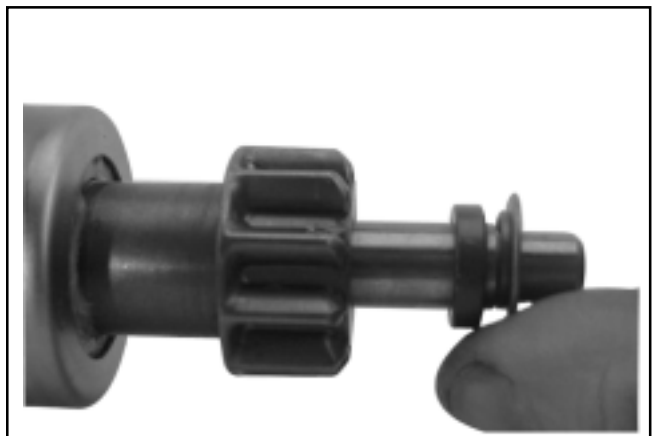

Figure 8-30. Installing Thrust Washer.
3. Install the offset thrust (stop) washer so the smaller “offset” of washer faces the retainer/collar. See Figure 8-30.